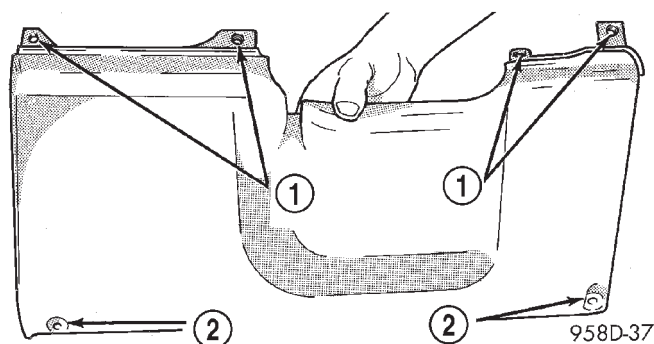

Fig. 9 Knee Bolster Attaching Screw Locations
the screws (Fig. 9) attaching the top of the knee bolster to the dash panel.
(8) Remove screws attaching the knee bolster to the instrument panel (Fig. 9).